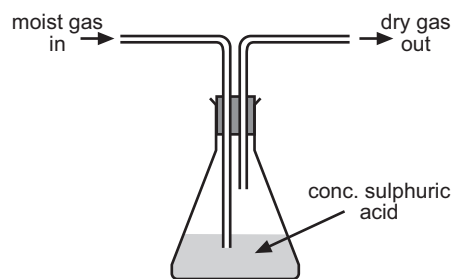

fig. 1.1.12
- To dry a gas with concentrated sulfuric acid, a double neck bottle or a conical flask with two delivery tubes (see fig. 1.1.12) are used. The tube introducing the gas should be immersed in the acid while the exiting tube should remain out of the acid.